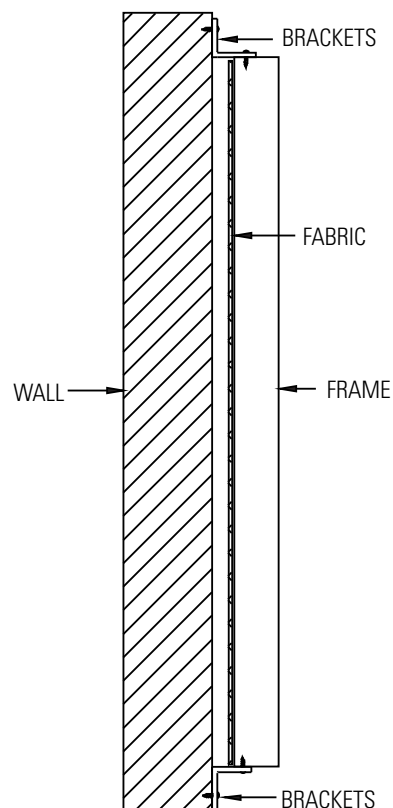

FIGURE 4. MOUNTED
7. Your assembled and mounted screen should appear as shown in a side view in figure 4. Any questions or comments should be directed to the factory at 219/267-8101.